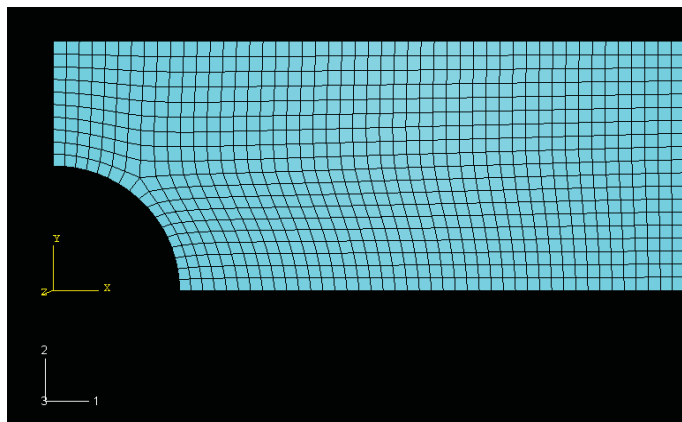

Figure 5-6 The plate with a fine mesh
- 3.5 From the buttons in the prompt area, click **Yes** to confirm that you want to mesh the part instance. You will get a finer mesh as shown in the Figure 5-6.